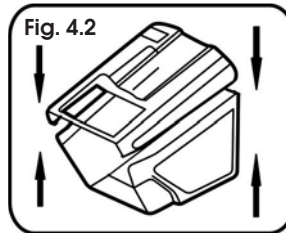

Fig. 4.2
- ✿ Connect the top and bottom part of the grass catcher. Figure 4.2